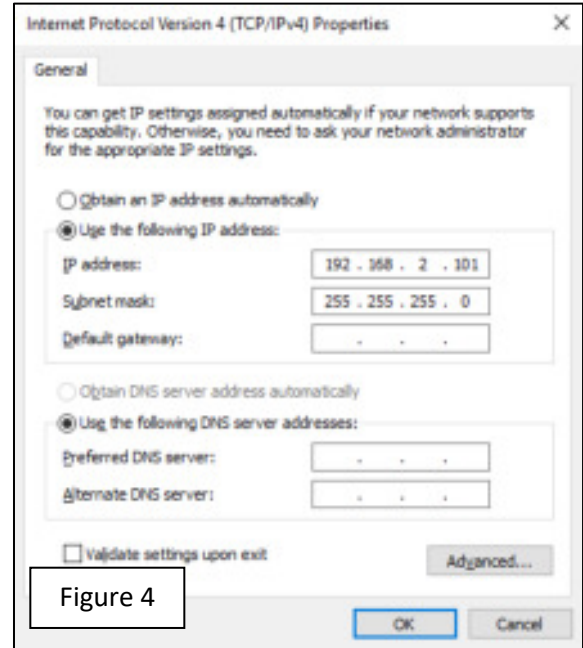

Figure 4
5. A new screen will pop up (Figure 4). Select the button “Use the following IP address:” and type in an address of 192.168.2.101. The sub-net mask should be 255.255.255.0. Click “OK”. The “Local Area Connection Properties” menu will be displayed. Click “Close”. There will be a slight delay while your PC applies these new settings.